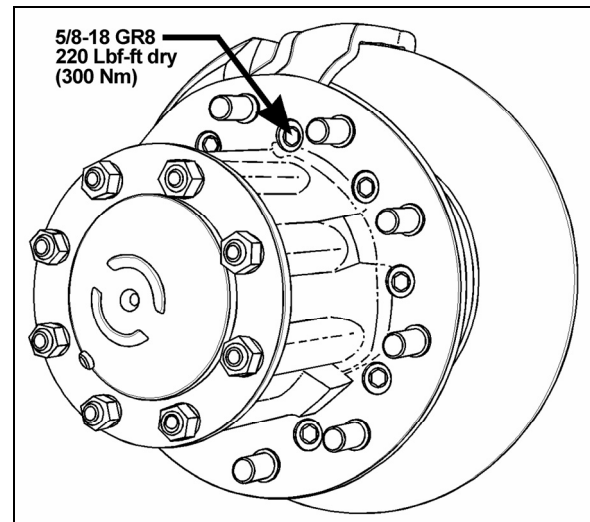

FIGURE 10: TORQUE SPECIFICATION
3. Install jacks under tag axle jacking points to support the axle weight (refer to figure 10).